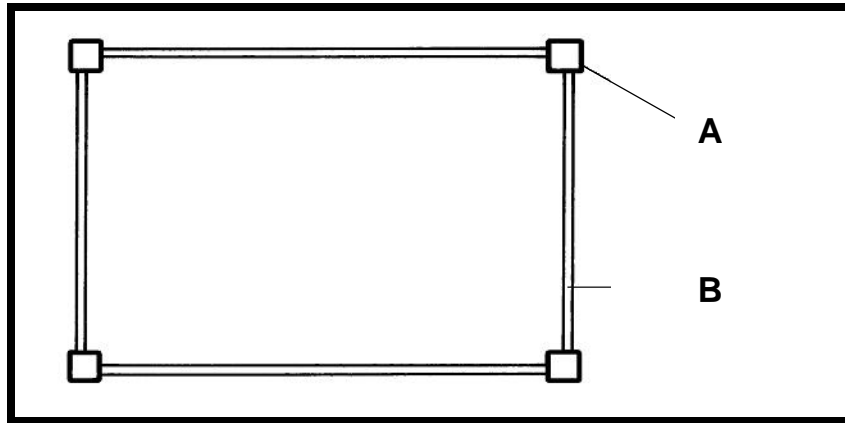

Figure 4.5
Figure 4.5 shows the top view of a table with the top removed.
- 4.5.3 Show by means of a labelled sketch how you will secure a top to the frame in **Figure 4.5**. (4)